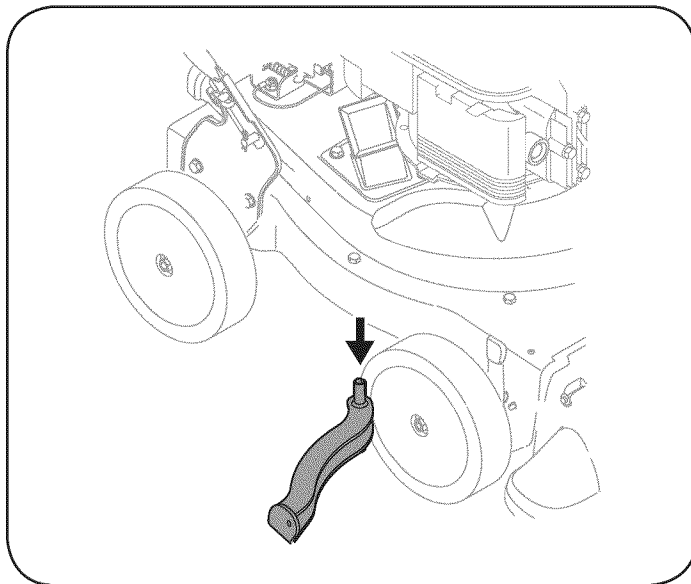

Figure 25
7. Remove and clean the screen by scraping or washing with water. See Figure 25 below.